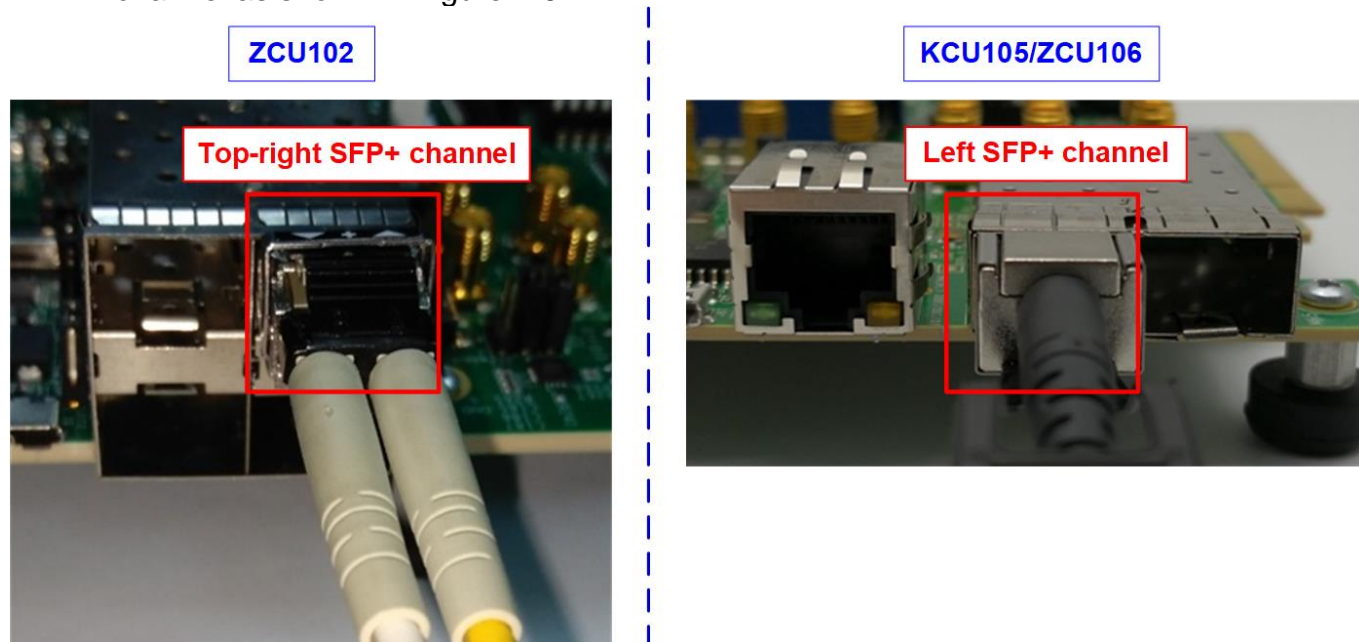

Figure 1-9 SFP+ channel using on ZCU102/ZCU106/KCU105 board
- a) For ZCU102/ZCU106/KCU105/ZC706, insert 10 Gb SFP+ DAC (Length<1m), AOC or SFP+ transceiver with LC-LC cable. Some boards have many SFP connectors, use the channel as shown in Figure 1-9.